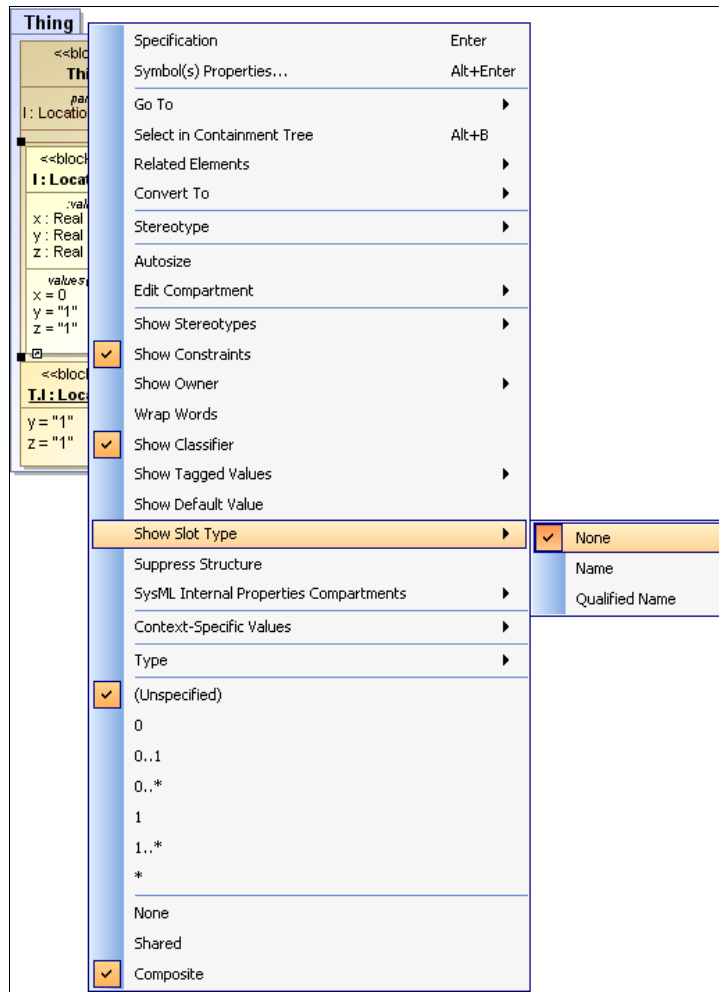

Figure 232 -- Shortcut Menu - Show Slot Type
- Right-click the part to open its shortcut menu, select **Show Slot Type**, and then select a display mode (Figure 232).